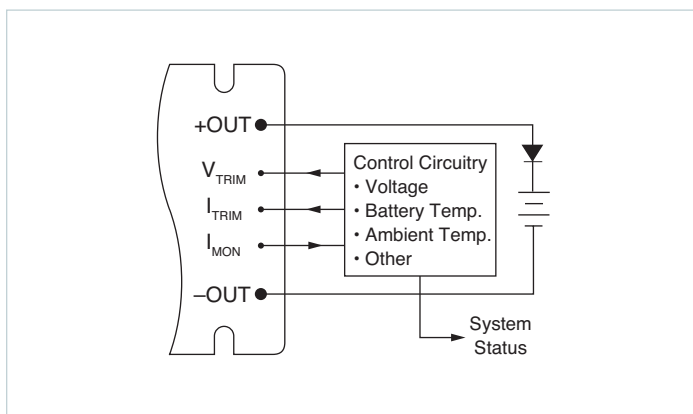

Figure 11.4 — The BatMod in an advanced battery charging system
**Advanced Battery Charger:** Many new battery technologies require sophisticated charging and monitoring systems to preserve their high performance and to extend their life. The BatMod serves as an ideal building block for constructing an advanced battery-management system, which typically incorporates a microprocessor-based control circuit that is easily adapted for a variety of battery chemistries and monitoring functions. (Figure 11.4)